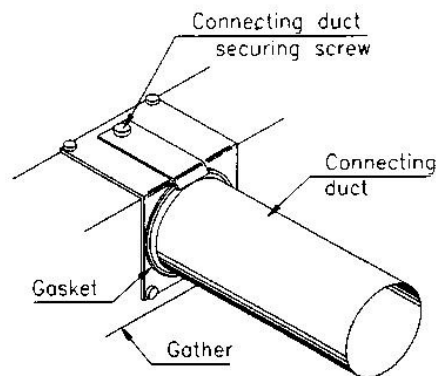

Fig. 6 Securing the connecting duct (rear outlet)
2. Fit the connecting duct to the gather spigot as shown in Fig. 6. Make sure the gasket is compressed and temporarily secure with the hexagon set screw provided.
19. Place the fire on the non-combustible base and slide the gather spigot into the connecting duct. Fix the fire to the base using the screws provided. Secure the connecting duct to the gather with the hex. set screw, ensuring that the gasket is compressed (Fig. 6).